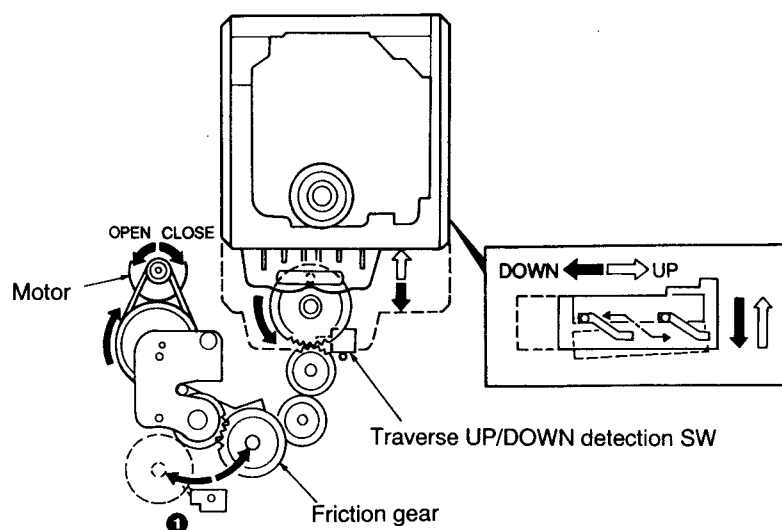

FIG. 3
While rotating counterclockwise, the friction gear moves in the direction of the arrow (Fig.3 ❶), and the slide tray begins to move in the arrow direction.